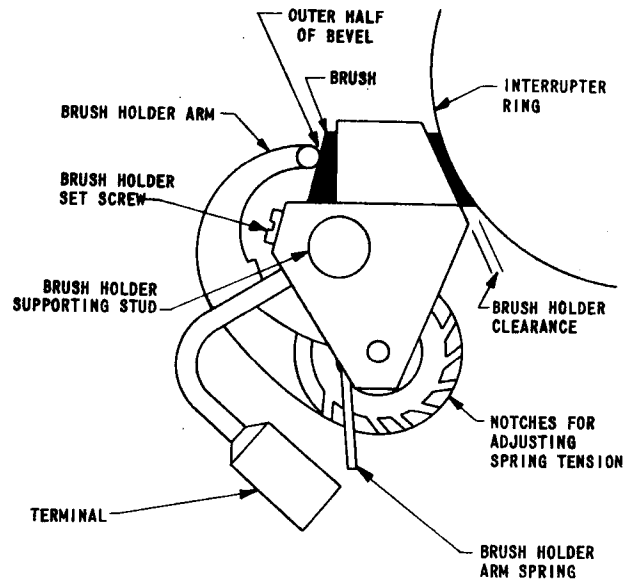

FIG. 2 BRUSH AND BRUSH HOLDER - ASSEMBLY
6.11 To adjust clearance loosen the set screw (see Figure 2) securing the brush holder to its supporting stud, and move the holder so that it has approximately $1/16"$ clearance from the interrupter disc. Lay a scale across the edges of brush holders on the same supporting stud and check that all holders are in approximately the same plane. Tighten the set screws.
8.1 On new brushes the brush holder arm shall contact the brush in the outer half of the beveled top, that is, in the half away from the brush holder slide. See Figure 2.